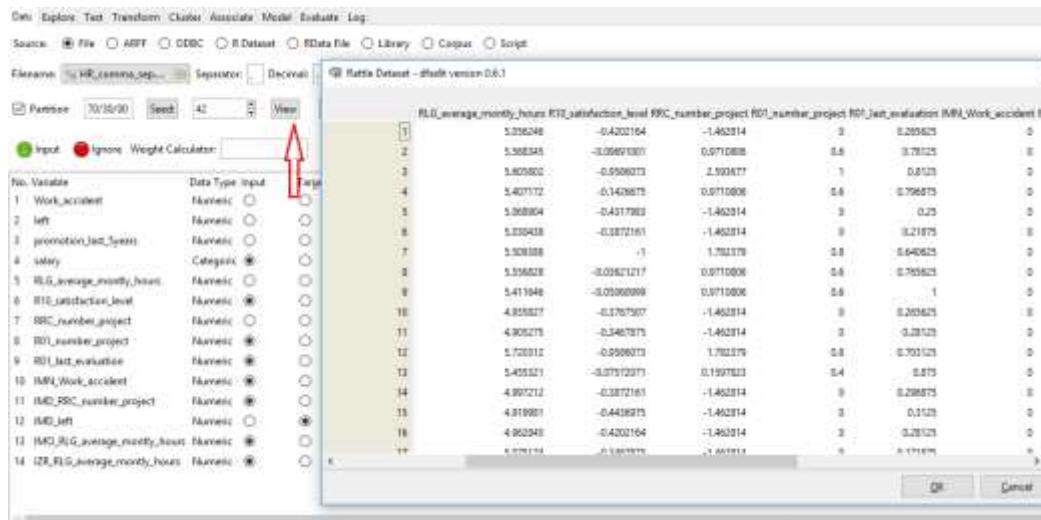

Figure 2
3.2.2 View Data: We can view the dataset by clicking on the View button (**Figure 2**).